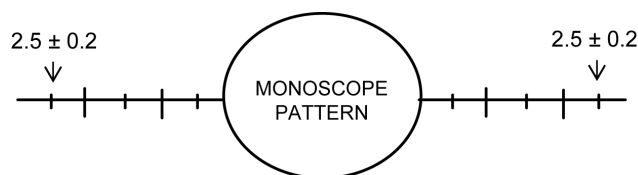

Fig. 1
b. Adjust H-AMP 60 Hz offset so that both edges are within  $2.5 \pm 0.2$ . Refer to Fig. 1.